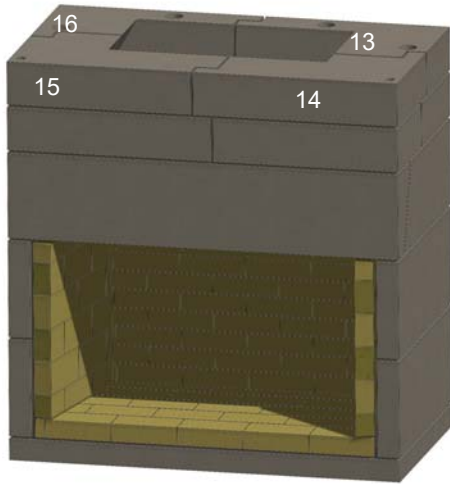

Figure 14. Middle Throat Level
J. Install second ring of four throat components (Items 13, 14 15 16). Check with a level. See Figure 14.